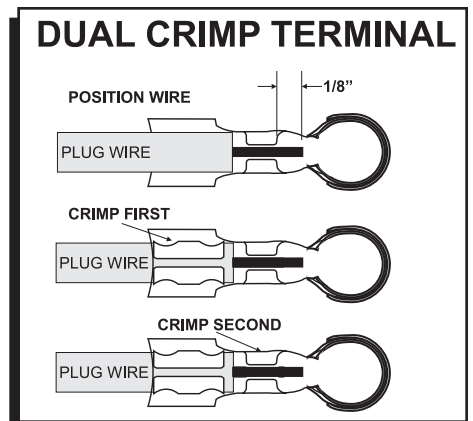
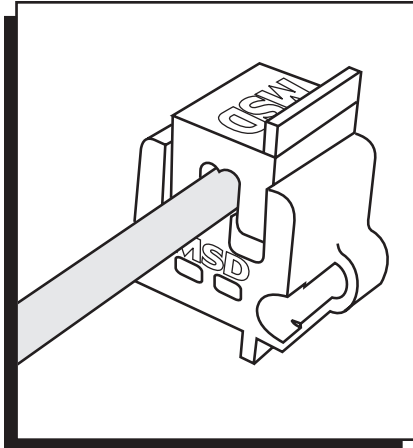

Figure 6 Crimping a Dual Crimp Terminal.
Figure 7
2. After stripping the sleeve, position the wire in the terminal so the insulation protrudes about 1/8" beyond the insulation crimp tabs and the conductor extends about 1/8" past the conductor crimp tabs (Figure 6). Slide the other part of the Mini-Stripper-Crimper over the wire terminal and lightly press them together (Figure 7).